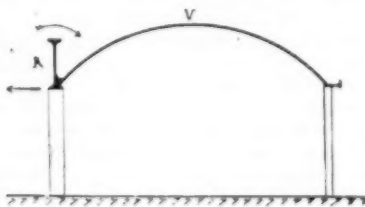

Fig. 20.
It would seem that if two parts of a structure, each stable in itself, are combined, the whole ought to be equally stable. Such, however, is not always the case. Consider, for example, a self-supporting vault (V) and an edge-beam (R) of appreciable depth and designed to carry its own weight and that of the roof (Fig. 20). Because the two elements (V) and (R) are built together, when the centering was removed the vault exerted a horizontal eccentric thrust on the beam which it turned over by torsion and subsequently fractured. This is a classic example of the danger of assembling component parts having different deformations.